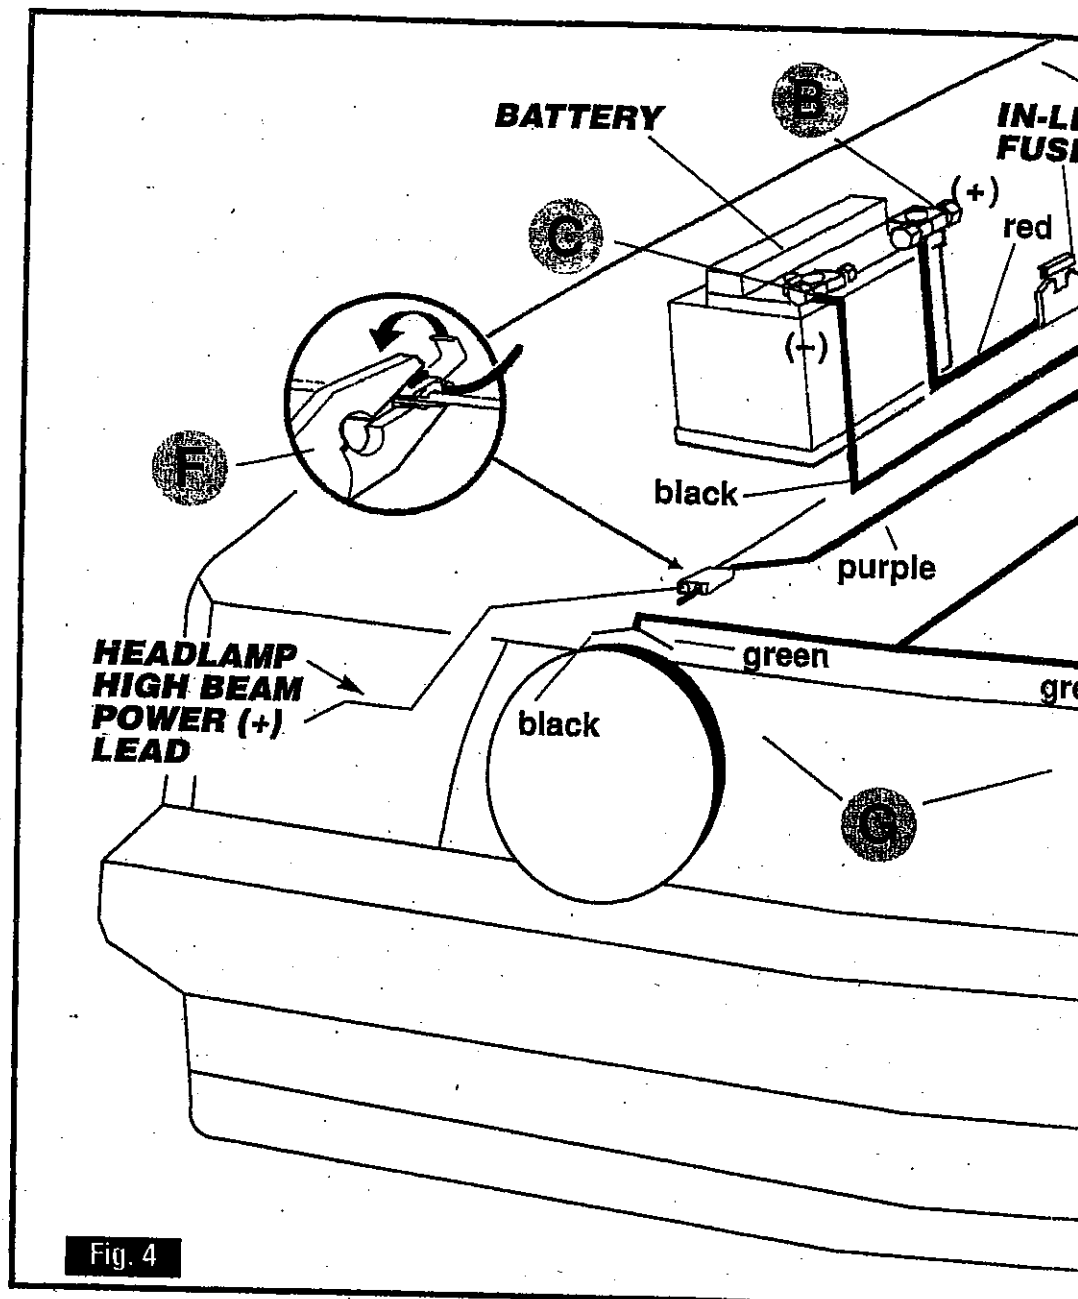

Fig. 4
2. Refer to Fig. 4 for diagram of wiring procedure.
3. Mount relay as follows: (See A in Fig. 4)
4. Connect relay power lead to battery as follows: (See B in Fig. 4)
b. Connect ground wire (black) to ground or to the negative (-) battery terminal. (See C in Fig. 4) Use screw (provided) if necessary.
5. Route wires to switch as follows: (See D in Fig. 4)
6. Install switch as follows: (See E in Fig. 4)
(See F in Fig. 4)
- b. Attach purple wire to high beam lead with "Scotch-lock" connector. (See inset F in Fig. 4)
8. Route harness to auxiliary lamps as follows: (See G in Fig. 4)